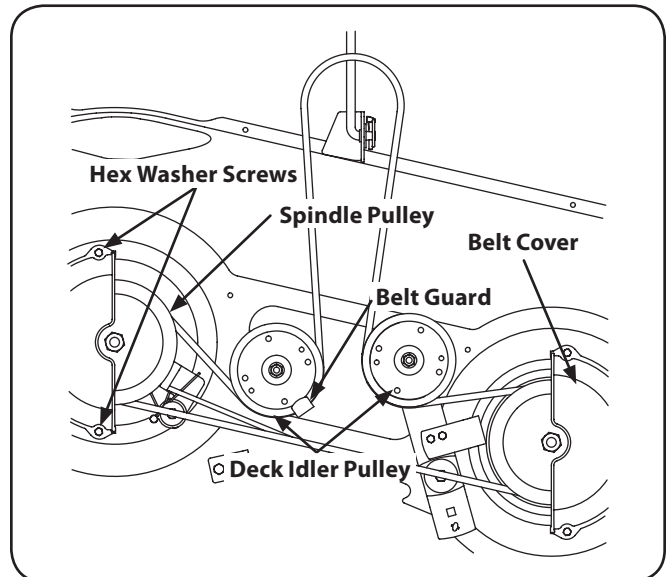

Figure 7-6
- Remove the belt covers by removing the hex washer screws that fasten them to the deck. See Fig. 7-6.
- Carefully remove the deck belt from around the two spindle pulleys and the two deck idler pulleys. See Fig. 7-6.